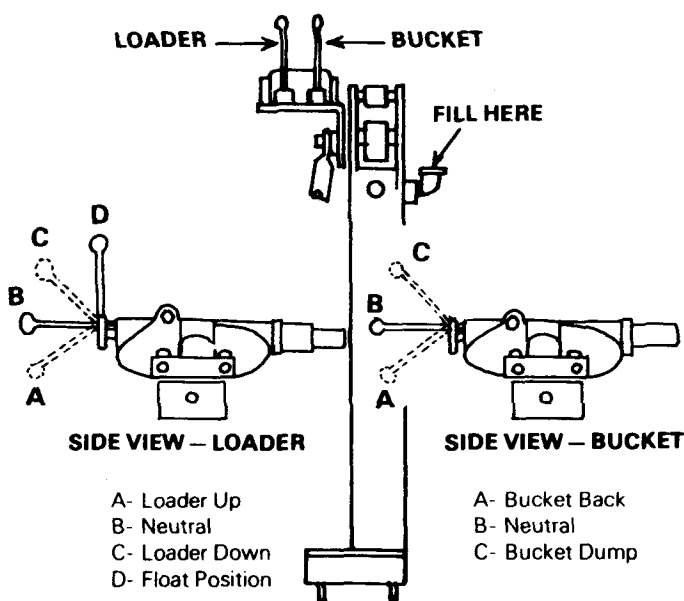

FIG. 14
6. Refer to FIG. 14.
(also refer back to Fig. 14)